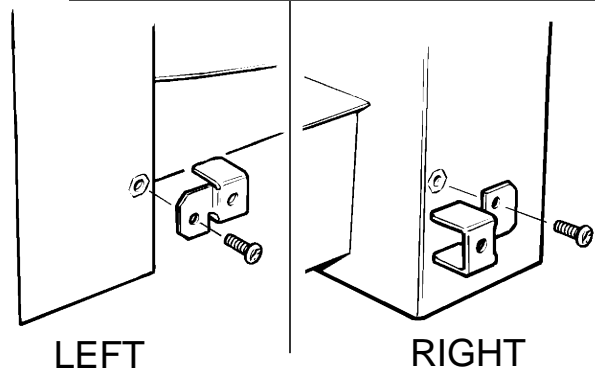

Figure 17. Surround securing brackets
11. (Visage, Decadent, Obsession and Eternal models only) Fit the two surround securing brackets to the convection box side flanges with the screws supplied. Note the different orientation of the brackets at left and right sides (See figure 17).